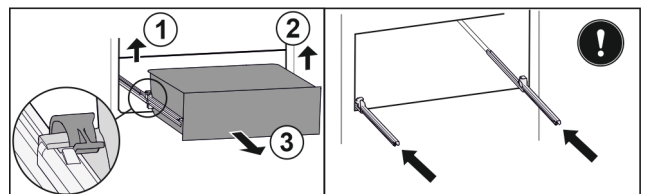

Fig. 161
- Lift left clamp and simultaneously pull drawer forwards on the left. Fig. 161 (1)
- Lift right clamp and simultaneously pull drawer forwards on the right. Fig. 161 (2)
- Remove drawer to the front. Fig. 161 (3)